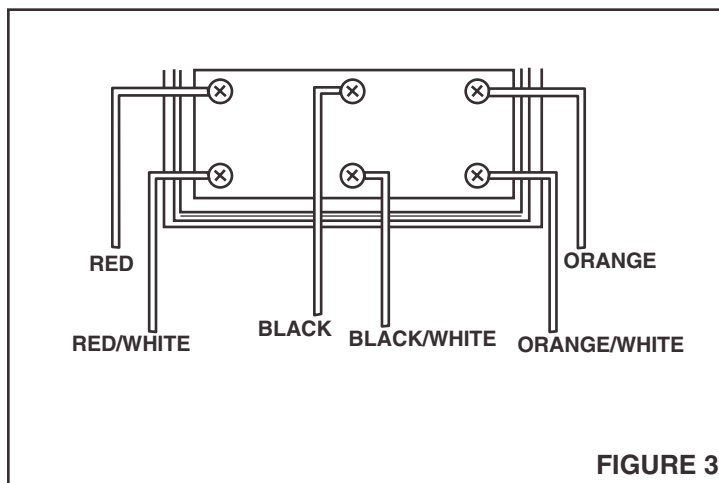

FIGURE 3
Refer to Figure 3. As illustrated, connect wires from the master unit to the six (6) screw terminals. Red wire to the terminal marked red, red/white wire to the terminal marked red/white, etc.